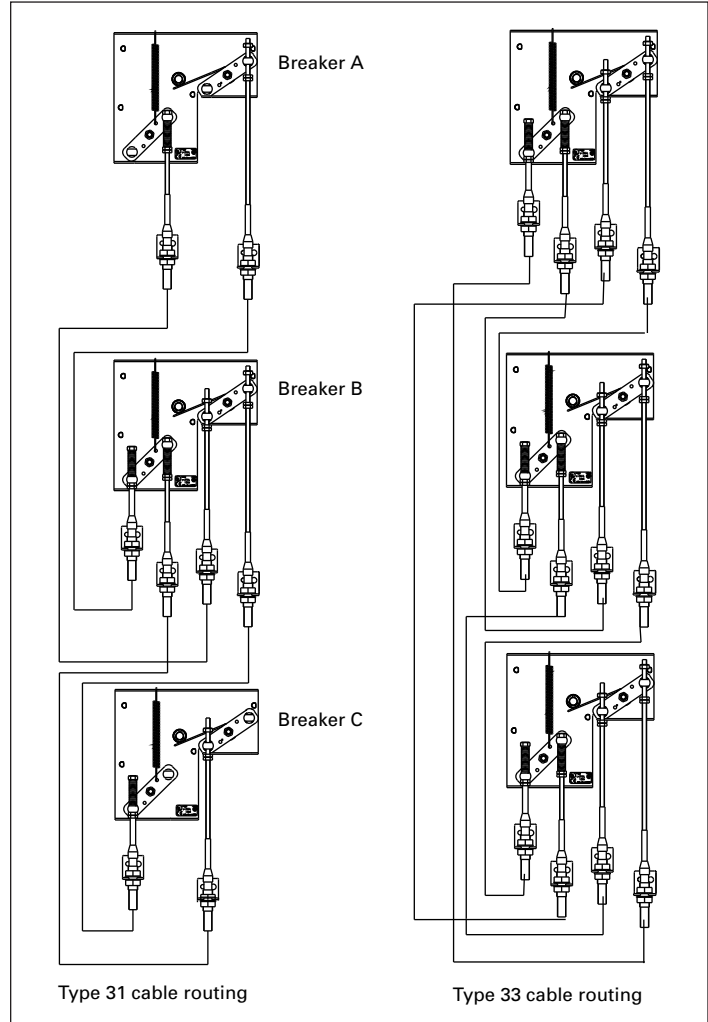

Figure 1. Cable routing for Type 31 and Type 33 interlock configurations
This information leaflet (IL) provides detailed installation instructions for installing and interconnecting one fixed Type RF frame breaker to another type of low voltage circuit breaker (LVCB) in any position (see A, B, C in **Table 1**) for a Type 31 or Type 33 interlock configuration as shown in **Figure 1**. When purchasing kits for a Type 31 or Type 33 interlock configuration setup, additional interlock kits (the types of interlock kits and the other breakers on which they can be installed that are compatible with this kit are listed in **Table 2**) are required for the other two breakers as well as the interconnecting cable kits (two or three are required depending on whether a Type 31 or Type 33 interlock configuration is desired, respectively).